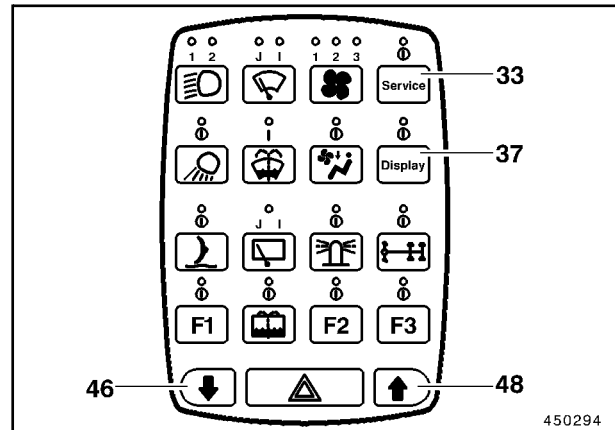

Fig. 5
- Press button (33, Fig. 5) until **"CODE Y/N"** is displayed; LED above button lights up.